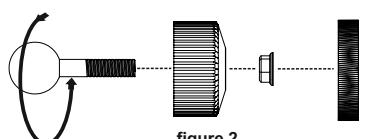

figure 2
Mount (3), (4) & (5) as shown in figure 2. Screw the threaded ball (4) into the threaded insert on the rear of the loudspeaker (6) (loudspeaker not shown below).